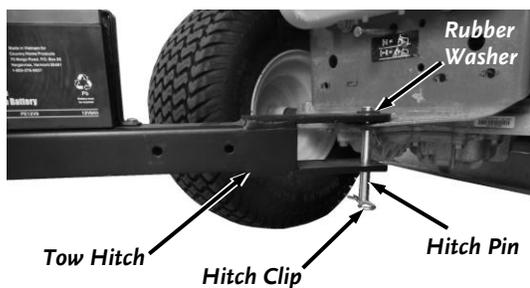

Figure 66
1. Position the back Hitch Plate of your Mower near the Hitch of the Leaf and Lawn Vacuum on level ground (**Figure 66**).
4. For models not equipped with a Jack, lift the Leaf System Hitch onto the Hitch Plate as shown (**Figure 66**). For models equipped with a Jack, operate the jack handle to raise the Hitch then move the Leaf System Hitch over the Lawn Tractor Hitch Plate.